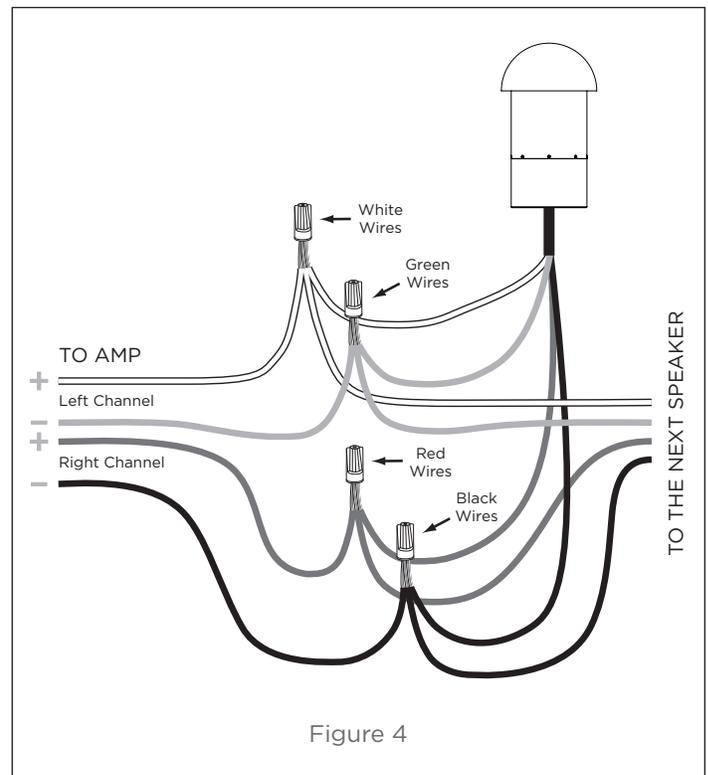

Figure 4
4. Take the spool back to the starting point and pull a second 2-conductor wire to the furthest speaker location and repeat steps 1 and 2 (see Figure 4).
The subwoofer features a dual voice coil driver with 4 wires, one pair for each of the amplifier channels. red (+) and black (-) are used for the right channel, white (+) and green (-) for the Left channel. The subwoofer can be connected at any point along the daisy chain e.g. beginning, middle, end or anywhere in-between. However, locating the subwoofer mid-way in the daisy chain will produce an equal amount of bass for the speakers on either side of the sub. The subwoofer needs to be connected in the same manner as the satellites speakers (see Figure 4).